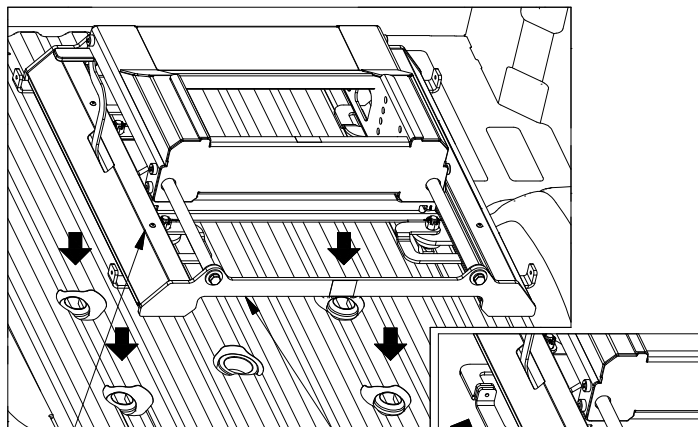

Figure B1: View of unlatched base.
CAUTION: Lifting the slider base under the sheet metal covers may cause damage to the base, grip base by end rail supports to lift, see Figure B1.
1. Place Base. Remove the latch pins from each side of the base and rotate the handles out, see Figure B1. Place the base over the attachment points and carefully lower it until the latch cams pass through the floor and the base rests flat against the top of the attachment points.